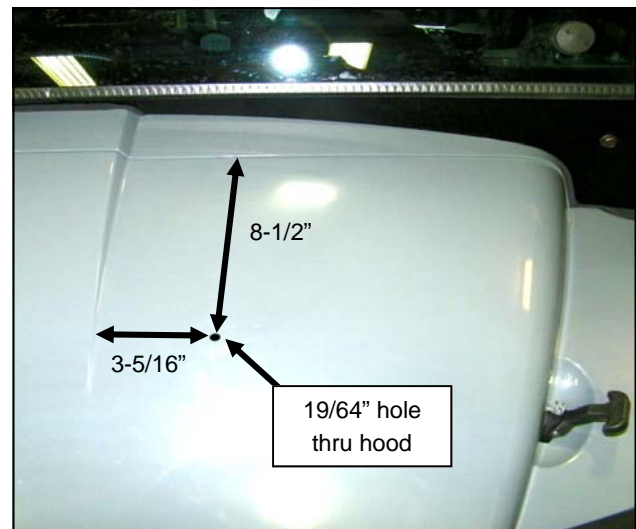

Fig. 2.1
- 2.1 Measure from the rear and center seam of the hood as shown and drill a 19/64" (.297") hole into the Carryall hood. See Figure 2.1.